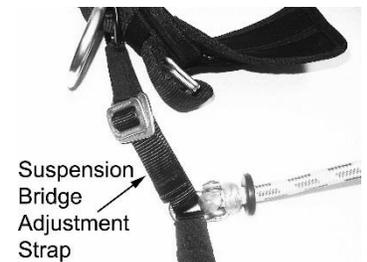

Figure 3
- Height adjustment of the Suspension Bridge by use of the Suspension Bridge Adjustment Straps (Figure 3 ErgoLite version shown) will alter your position. Tightening the adjustment straps will move your position forward and loosening them will move it backwards.